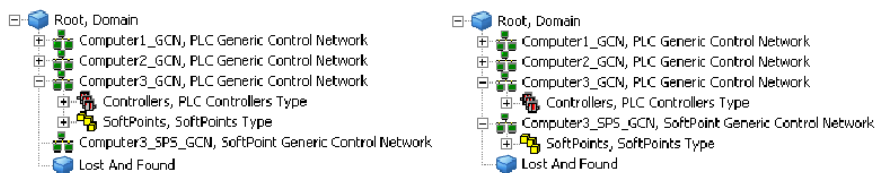

Figure 37. Dragged Object
2. Use the Object Browser to drag the `SoftPoints, SoftPoints Type` object from a SoftPoint Generic control network to the corresponding PLC Generic control network. Place the object at the same level as the `Controllers, PLC Controllers Type` object as shown in Figure 37.